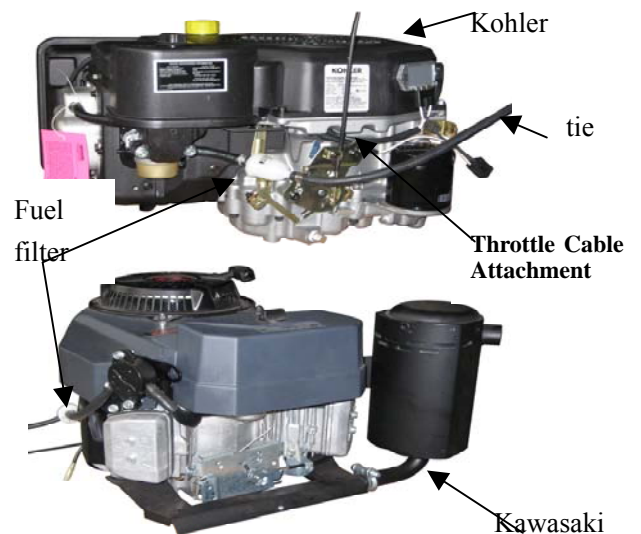

FIG7
- the Throttle Cable must be attached to engine according to Engine Operator Manual. Fuel Tank line connects the line of engine.See FIG7